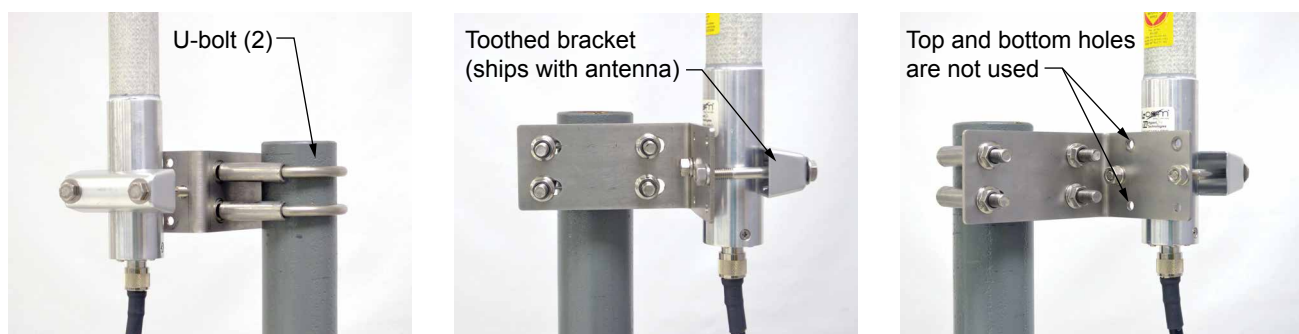

Figure 2.11 - Optional 2-in. pipe mount bracket
To install the antenna, reference Figure 2.11, pg. 34 while following the instructions below:
2. Position the L-shaped bracket against the pipe so that the pipe is on the outside of the “L” and secure it to the pipe with the two U-bolts and four U-bolt nuts (Figure 2.11, pg. 34, left). The U-bolts will pass through the longest of the two bracket panels.
5. Place a flat washer over each of the 5/16-in. bolts and insert the bolts through the holes in the toothed bracket and through the center holes in the L-bracket panel (Figure 2.11, pg. 34, center and right).
8. Holding the antenna in place, tighten the two 5/16-in. nuts on the inside of the L-bracket to secure the antenna (Figure 2.11, pg. 34, right).